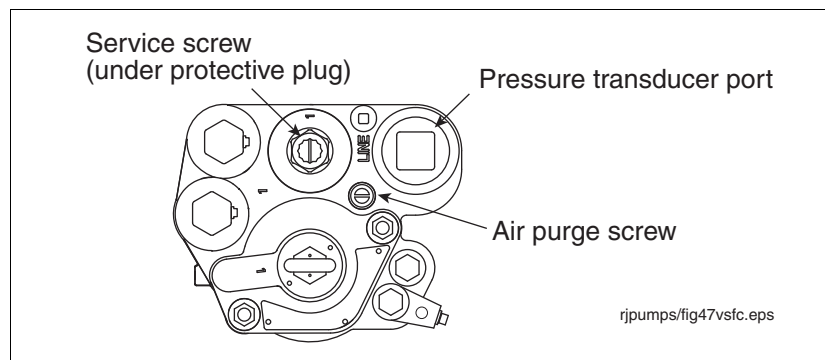

Figure 36. Locating discharge port plug for pressure transducer
2. Remove and save the protective plug over the service screw and turn the screw clockwise (see Figure 36). As the screw approaches its bottom position, you will hear the system depressurizing. Continue turning the screw until it can go no further. When the screw is all the way down, back off the screw 4 turns to lift the check valve and let the fuel drain out of the manifold's hydraulic cavities.
9. Turn the air purge screw 2 - 3 turns counterclockwise (see Figure 36).